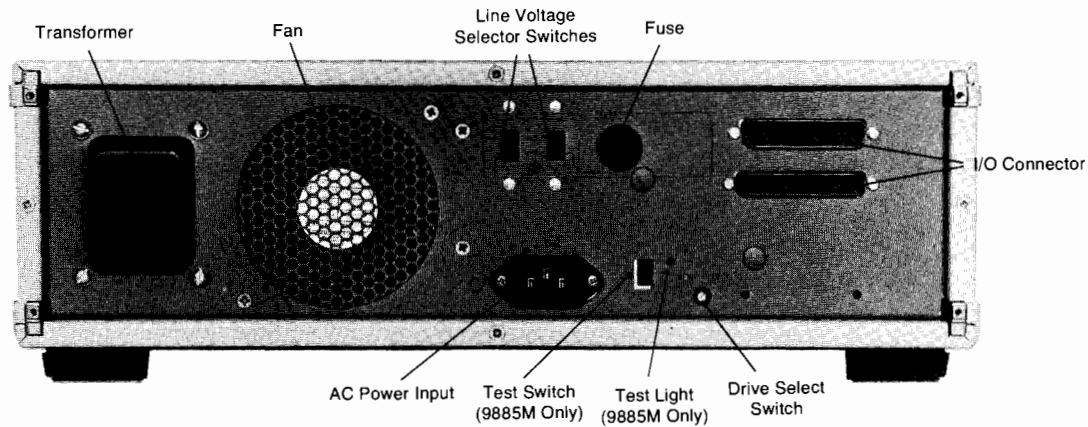

Figure 1-2. 9885 Rear Panel
4. Set the drive select switch (see Figure 1-2) to the desired drive number (0-3). Each drive connected to a particular 98032A option 085 interface must have a different drive number. A maximum of four drives can be connected to one interface.
5. For a single drive system, connect the 9885M to the calculator via the 98032A option 085 interface. Connect the drive end of the interface cable to the top I/O connector on the back of the 9885M (Figure 1-2).
8. Connect the ac power cord to the power input connector on the back of the drive (Figure 1-2) and to an appropriate ac power source.
To perform the self test, first disconnect the interface cable between the 9885M and the calculator. Then close the doors on all the drives in the system. Insert the blade of a screwdriver into the slot of the test switch on the rear panel of the 9885M (see Figure 1-2) and press the switch down; then release it.